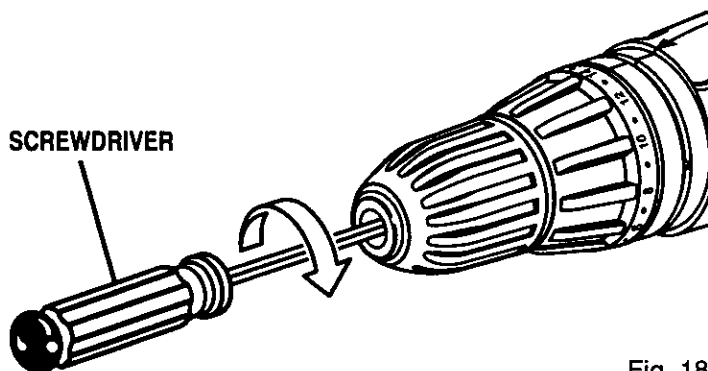

Fig. 18
- Open chuck jaws and remove hex key wrench. Remove the chuck screw by turning it in a clockwise direction. See Figure 18.